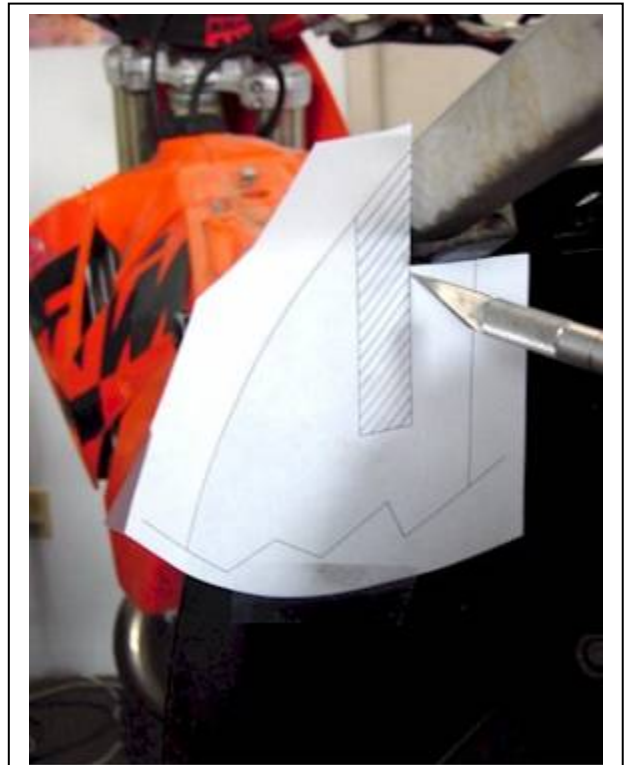

Figure 2: LH air box template taped to plastic
4. Tape the left hand airbox cutout template (**Figure 1**) on the airbox. Mark and carefully trim out the plastic in the cross hatched area with a sharp razor knife **Figure 2**. Trim small amounts at a time to ensure the best fit. It is sometimes useful to apply some heat to the plastic and knife with a hot air gun to make cutting easier.